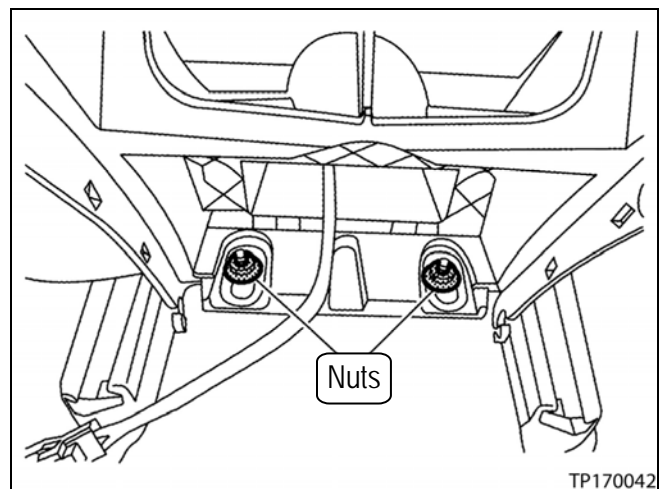

Figure 11
j. Remove the two (2) nuts (see Figure 11).